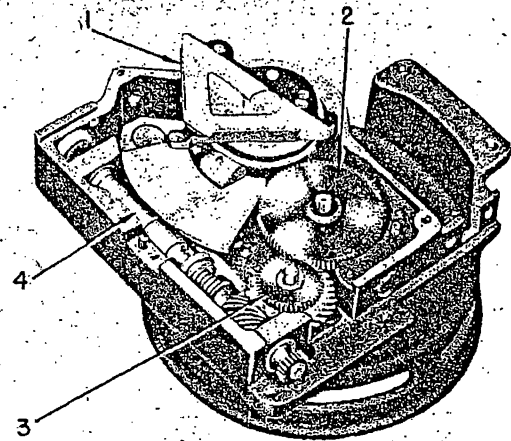

Figure 5—Interior View
KEY TO FIGURE 5
g. WORM ASSEMBLY.—The worm assembly (4, figure 5) is driven by the drive assembly and, in turn, operates the gear assembly, moves the sector assembly, and turns the counter assembly.
h. GEAR ASSEMBLY.—The gear assembly (3, figure 5) is driven by the worm assembly and drives the recording disc assembly.
i. SECTOR ASSEMBLY.—The sector assembly (1, figure 5) is driven by the worm assembly, and supports and rotates the field prism assembly.
k. RECORDING DISC ASSEMBLY.—The recording disc assembly (2, figure 5) is driven by the gear assembly and supports the marking disc.